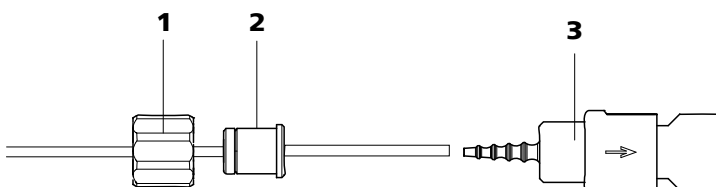

Figure 6 Install pump tubing connection with filter
- **Case A:** a 6.2744.180 pump tubing connection **with filter** (see Figure 6, page 18) or